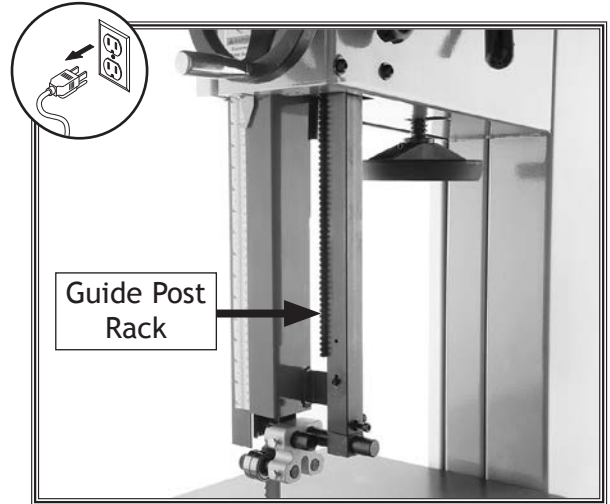

Figure 80. Guide post rack exposed for lubrication (roller bearing guides shown).
3. Use a rag and mineral spirits to wipe off any grease and sawdust build-up on rack (see **Figure 80**).